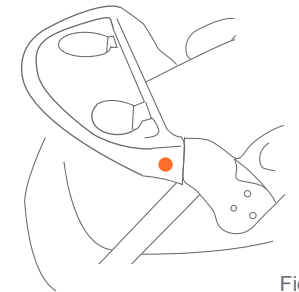

Fig. 10c
- To access the child seat: Press inward on left side tray release button and rotate upward on the tray (Fig. 10c).